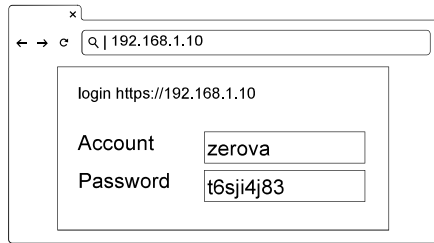

Figure 32. Login
- 2) See figure 32. On the EVSE Homepage, login with the credentials that follow: